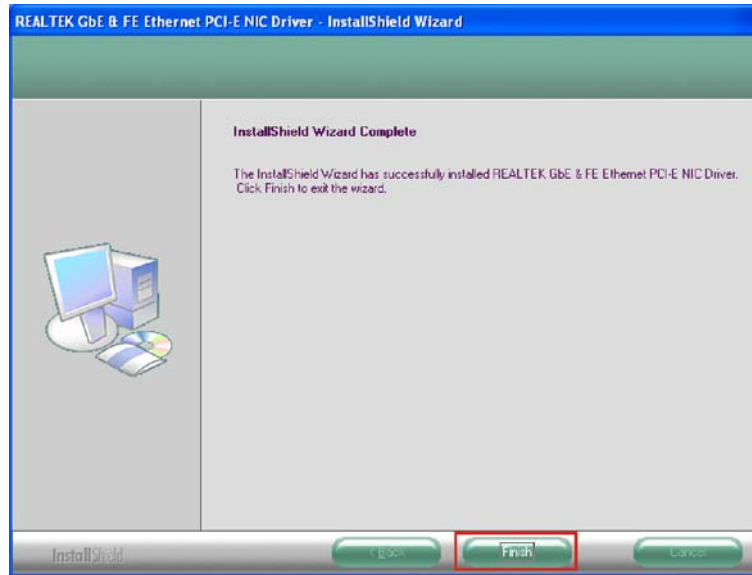

Figure 6-19: LAN Driver Installation Complete
Step 9: When the driver installation is complete, the screen in Figure 6-19 appears.
Step 10: Click **FINISH** to exit the InstallShield Wizard (Figure 6-19).